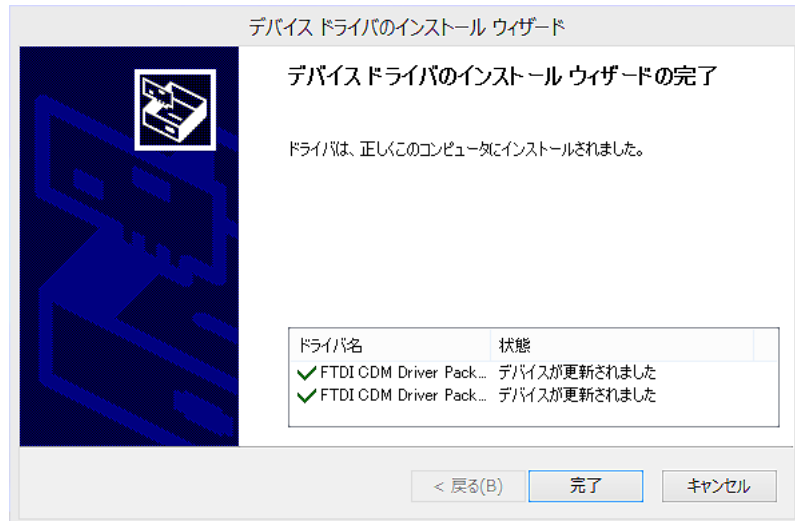

Fig. 12: Install Wizard completion
- (6) When the installation is complete, Fig. 12. Install Wizard completion screen is shown.